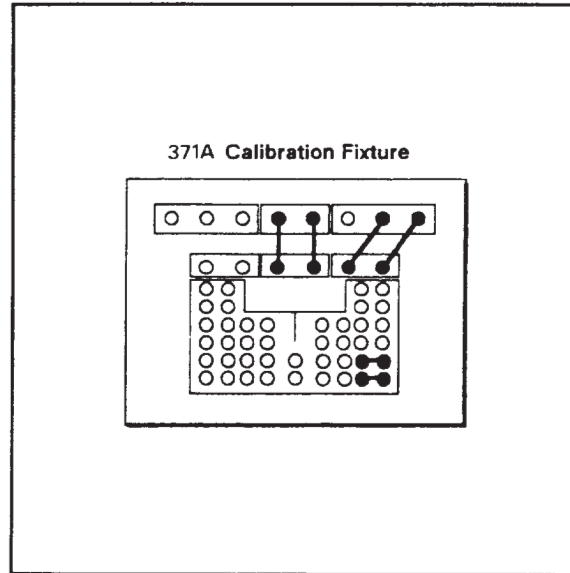

Figure 4-10. Calibration Fixture connections for adjusting Step Generator Current Zero and Negative Current Balance.
1. Connect the patch cords and shorting bars as shown in Figure 4-10.